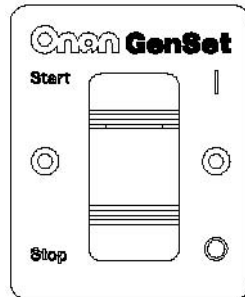

FIGURE 78. REMOTE SWITCH
- Remote switch with status indicator light only (Figure 78).